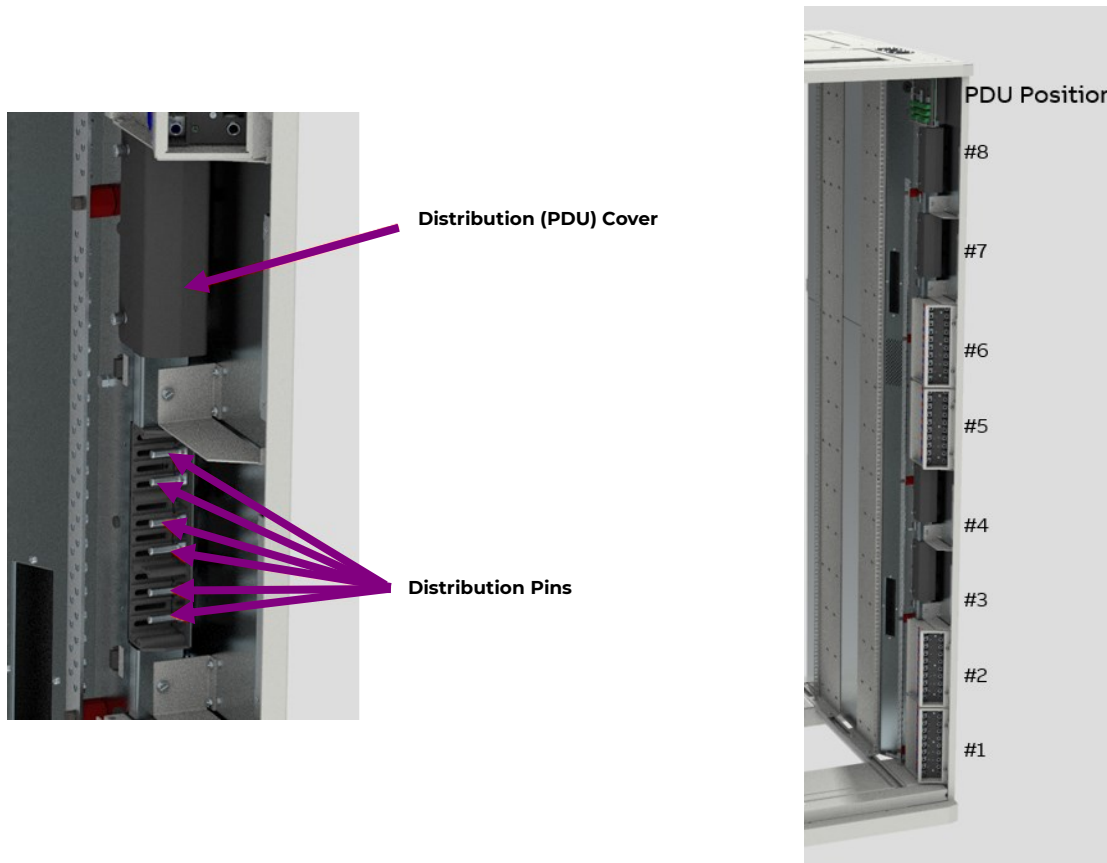

Figure 31 PDU Locations
2. Remove the covers over the PDU receptacle in enclosure. (See figure 31)
3. Align sockets on the DC PDU with the PINS on the system DC bus. (See figure 31) and plug each PDU onto the output BUS.
5. Secure all PDU panels using the two (2) thumb screws.